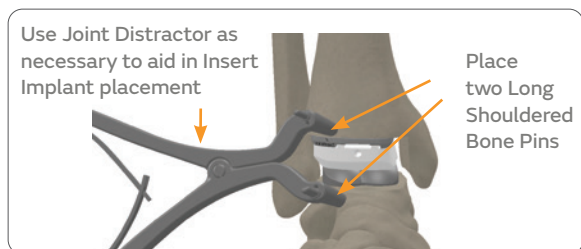

Figure 79
**Tip:** Use of the Joint Distractor may be necessary to place a posterior biased insert implant. **(Figure 79)**